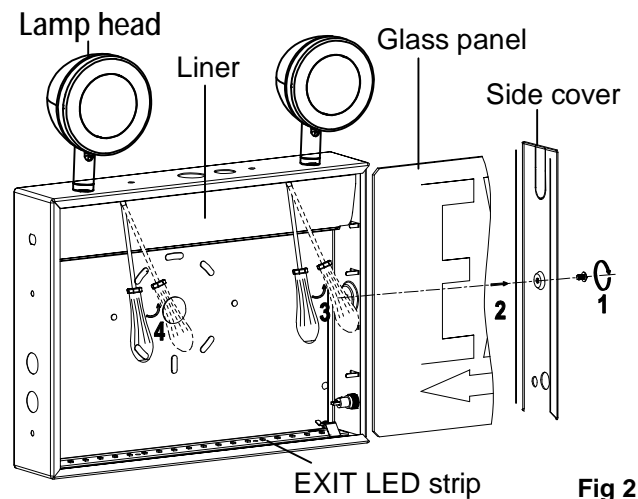

Fig 2
- Step 2. Disassemble glass panel by removing the screw holding side cover, use flat head screwdriver to open the liner. See Fig 2.
- Step 2. Disassemble glass panel by removing the screw holding the side cover, use flat head screwdriver to open the liner. See Fig 2.